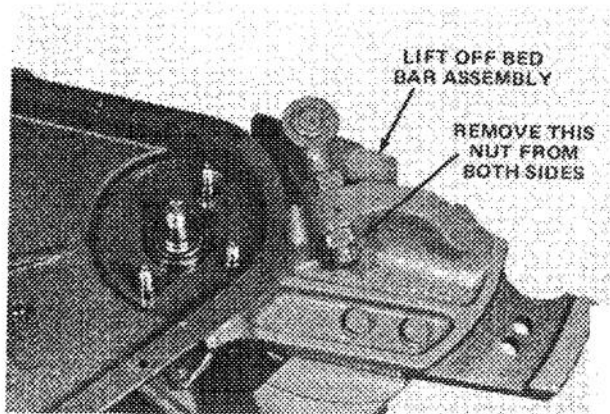

Figure 35
17. Remove upper jam nut from each rod end bearing (Fig. 35). Remove bedknife and bedbar assembly from gear case. If pivots are damaged, grind or burn off weld, and remove from bedbar.